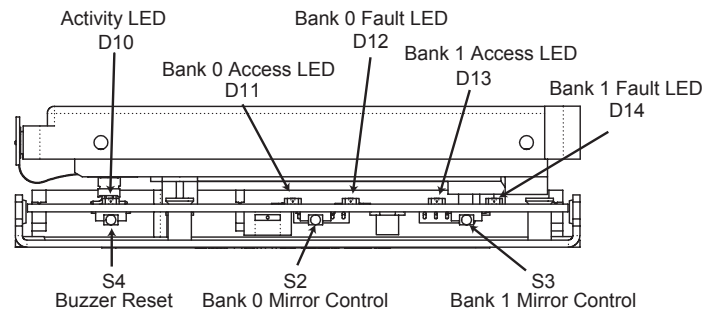

Figure 7 LEDs and Mirror controls
2. Depress the Buzzer Reset button, labeled S4 in Figure 7 on page 7.